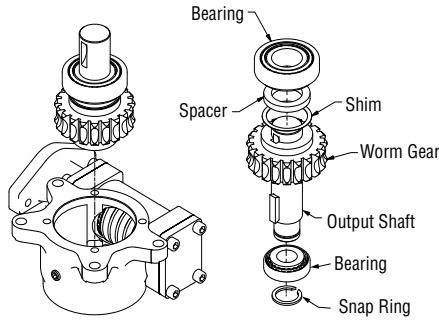

Figure 5-8, Output Shaft
7. Remove the output shaft assembly. (Figure 5-8)